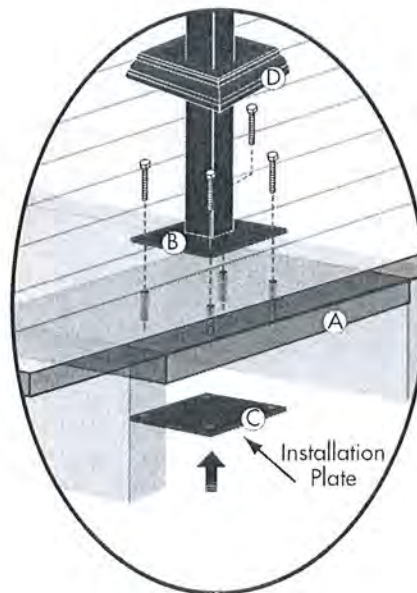

Figure 5
- 5.) Push 5/16" bolts (not included) through installation plate and attach separate bottom plate *Figure 5 (C)* from underneath deck surface (posts can be leveled as needed by using steel washers as shims).
- 6.) Install base trim *Figure 5 (D)* around deck post at deck surface before installing rail.
- 3.) Install base trim *Figure 5 (D)* around deck post at deck surface before installing rail.